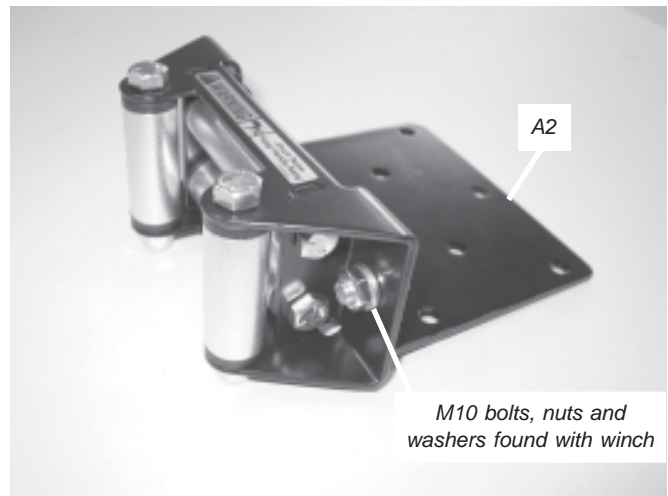

Figure 7 Attach Roller Fairlead Mounting Bracket
- Attach fairlead to the fairlead mounting bracket (A2), figure 7.
Use the two supplied M6 bolts, nuts, and lock washers provided with the winch as shown in figure 7. Install the lock washers and nuts on the roller fairlead side. Tighten the two M6 bolts to a recommended torque of 34 N-m (25 ft-lb).